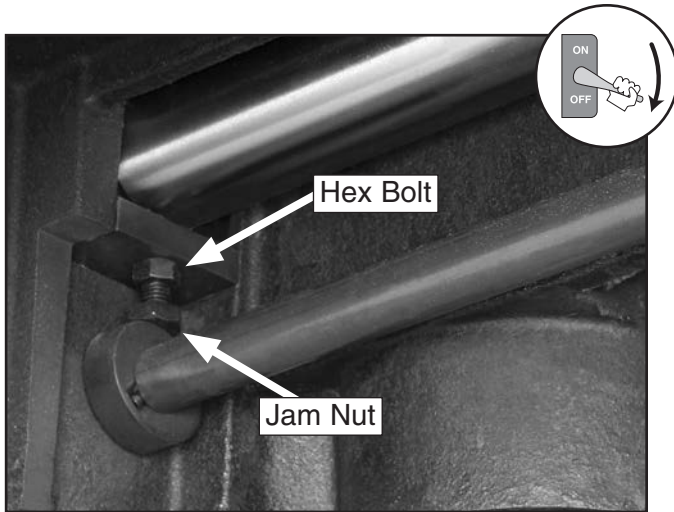

Figure 43. Table roller height adjustment fasteners (left side shown).
- Loosen the jam nut (see **Figure 43**) and adjust the hex bolt so that the roller just touches the straightedge; then, retighten the jam nut.